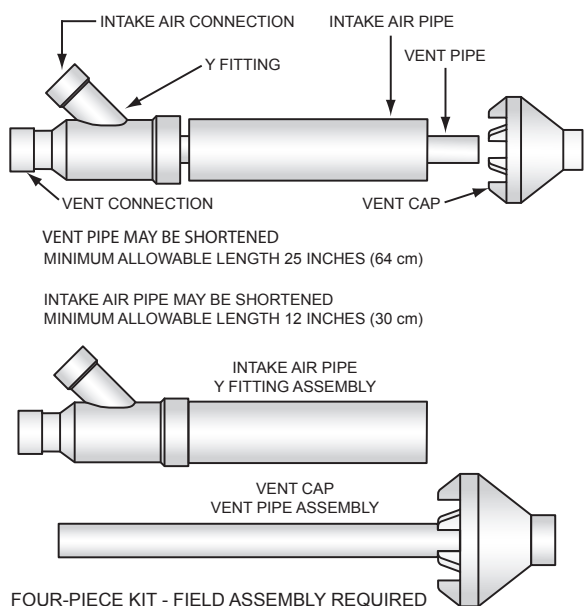
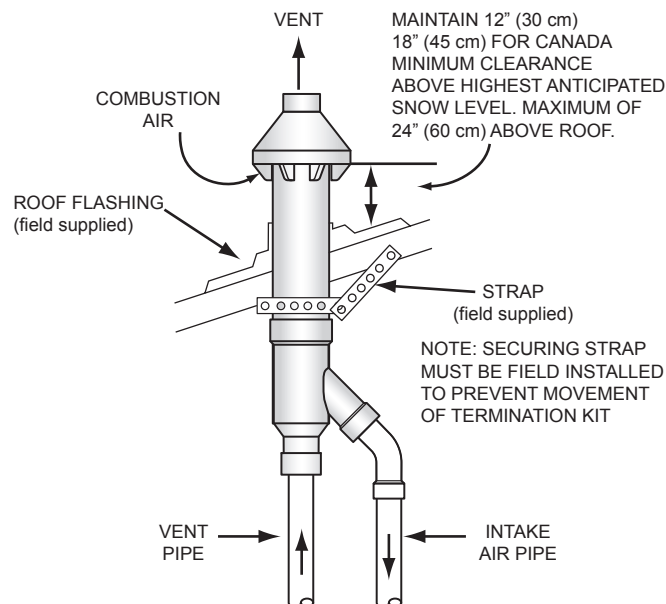
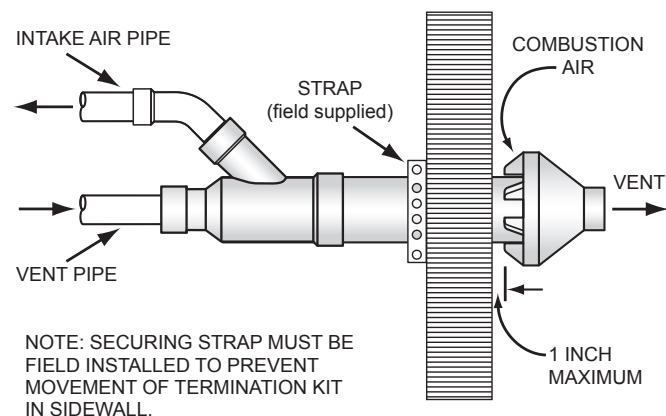

Figure 28. Concentric Termination Kit
Figure 29. Concentric Termination Clearances - Vertical Installation
Figure 30. Concentric Termination Clearances - Side-Wall Installation
3. When installing a concentric termination vertically through the roof; ensure that all exterior vertical clearance requirements for the concentric termination, shown in *Figure 29* (page 35) are being maintained. These clearances and those cited by local and national codes must be maintained.
- See *Figure 28* (page 35) for the minimum lengths allowed for the concentric termination.
Assemble and install the concentric termination. Refer to *Figure 28*, *Figure 29* (page 35) and *Figure 30* for these instructions: